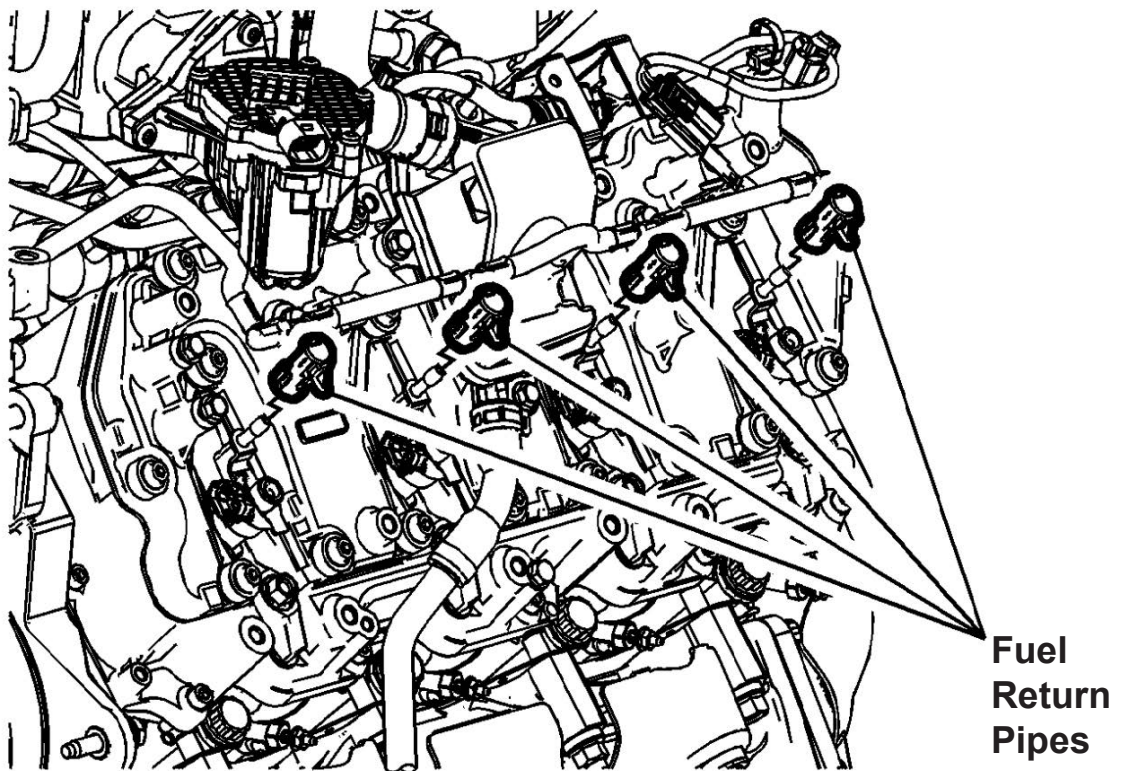

Figure 2
3. Disconnect and reposition the fuel return pipes. See Figure 2.
9. Reinstall the fuel return pipes. See Figure 2.